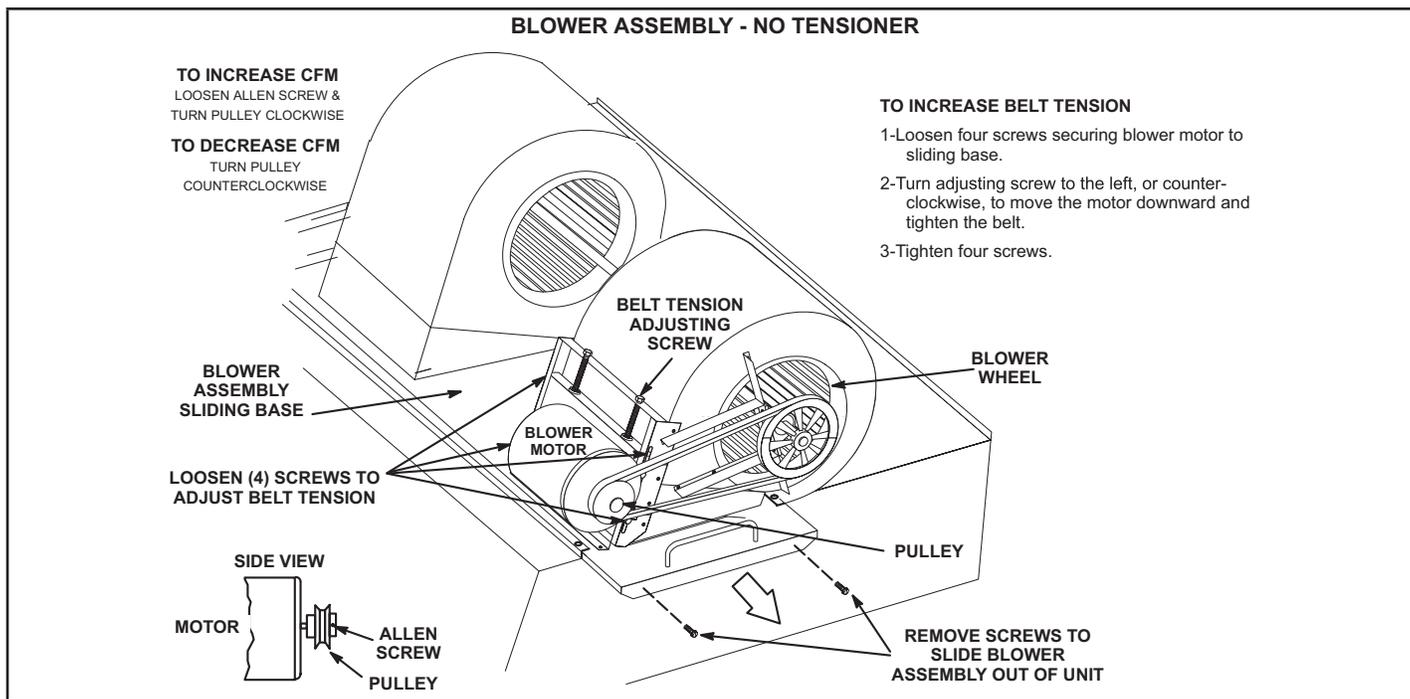

FIGURE 9
The blower compartment is located between the evaporator coil and the compressor / control section on the opposite side of the condenser coil. The blower assembly is accessed by disconnecting the blower motor wiring (and all other plugs) and removing the screws on either side of the sliding base. The base pulls out as shown in figure 9.
- 2 - Remove screws on either side of blower assembly sliding base. See FIGURE 9.
- 4 - The blower RPM can be adjusted at the motor pulley. Loosen Allen screw and turn adjustable pulley clockwise to increase CFM. Turn counterclockwise to decrease CFM. See FIGURE 9. Do not exceed minimum and maximum number of pulley turns as shown in TABLE 5.
1 - Loosen four screws securing blower motor to sliding base. See FIGURE 9.